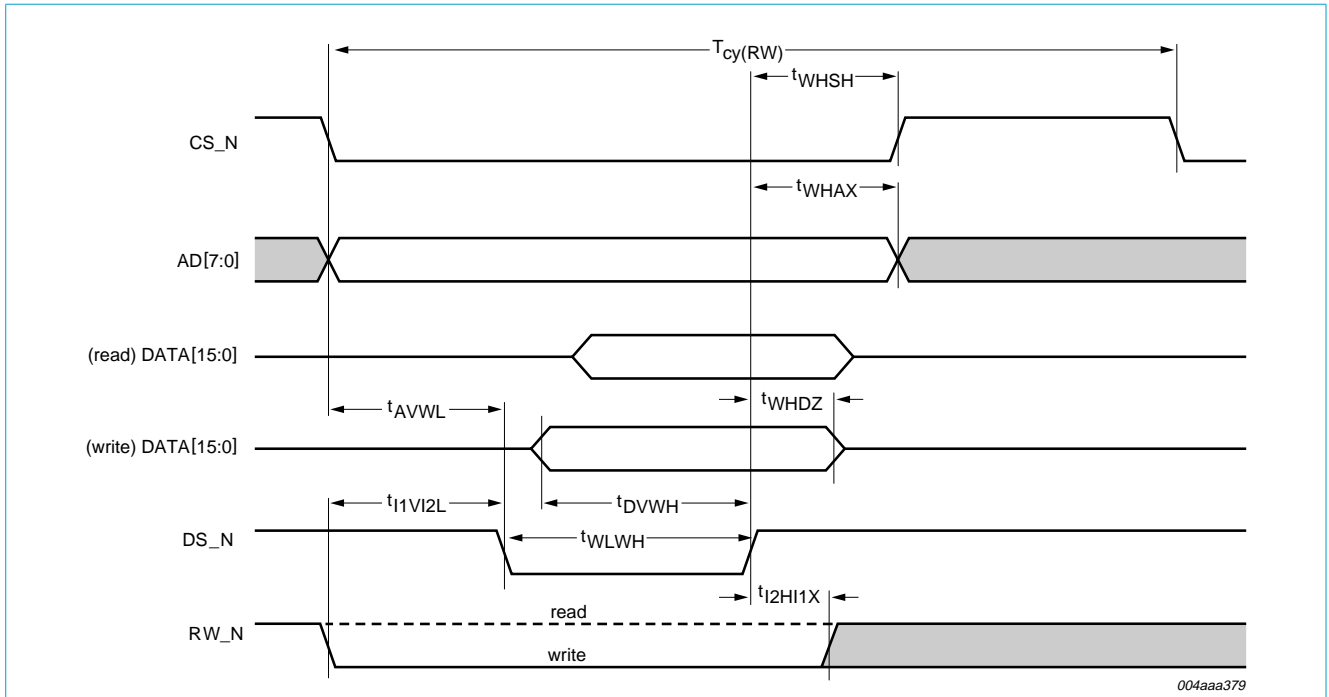

Fig 21. ISP1583 register access timing: separate address and data buses (Motorola style).
- MODE0 = L: Motorola style; see Figure 21.